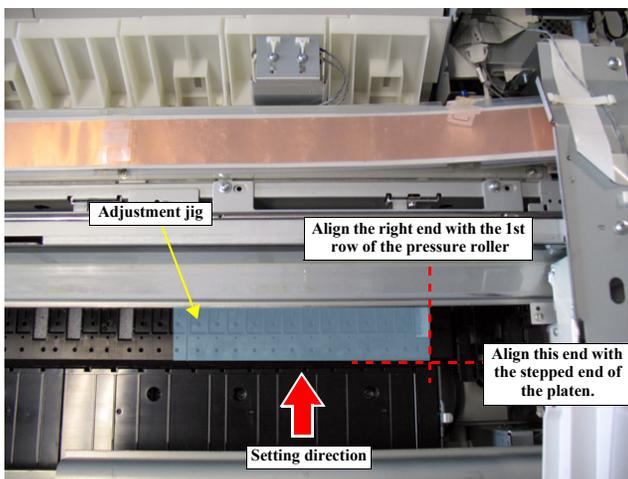

Figure 4-66. Setting position of the adjustment jig
- Insert the adjustment jig of **0.5** from the paper insertion opening and set the jig at the position shown in Figure 4-66, then press [Paper Set].
- Set the adjustment jig of **0.6** at the position shown in Figure 4-66, then press [Paper Set].
- Set the adjustment jig of **0.8** at the position shown in Figure 4-66, then press [Paper Set].
- Insert the adjustment jig of **1.0** from the paper insertion opening and set the jig at the position shown in Figure 4-66, then press [Paper Set].